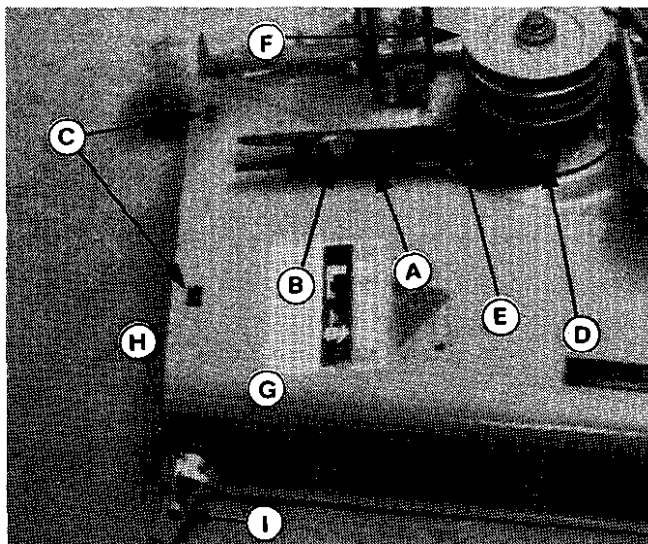
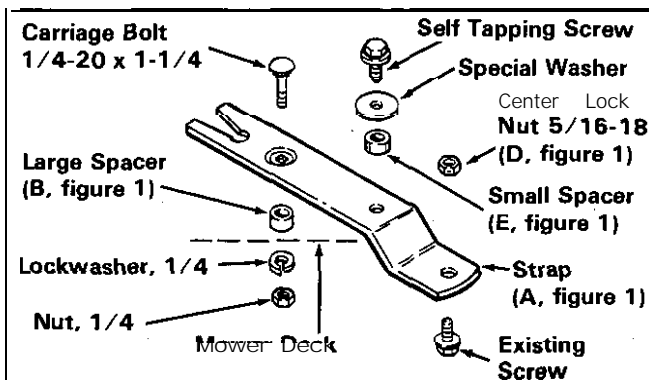
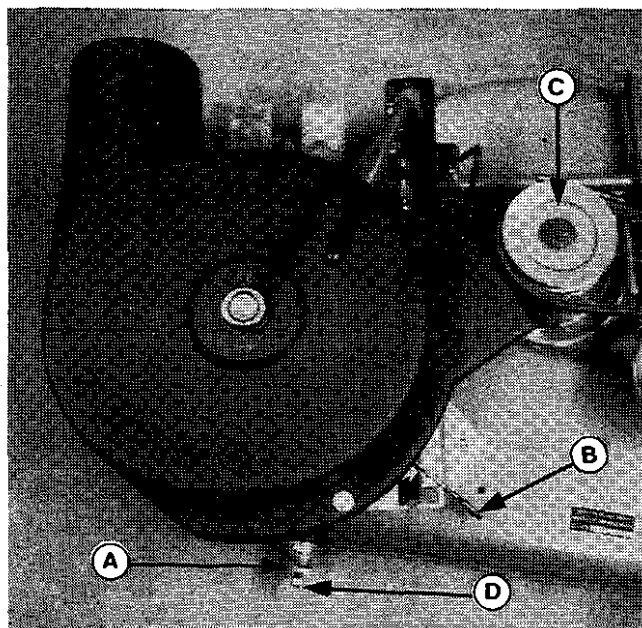

Figure 1.
Figure 2.
Figure 6.
2. Install strap (A, figure 1) as follows:
- a. Drill a  $\frac{9}{32}$ " hole for large spacer (B). Use the supplied template on the last page. Align template with deflector mounting holes (C).
- b. Install strap (A, figure 1) to deck with hardware shown in figure 2.
- c. Check the installation. The strap should be secured to deck with locknut (D, figure 1). The small spacer (E) should be above the strap. The large spacer (B) should be between strap and mower deck.
4. Remove the existing right-hand arbor pulley and install the new double-groove pulley (F, figure 1) with existing capscrew, lockwasher and washer. Torque to 55 to 70 ft. lbs. Do not reinstall deck-drive belt at this time.
6. Install wing nut (G, figure 1) assembly as follows. Insert  $5/16$ -18 x 2-1/2 capscrew and  $5/16$  flat washer from inside the deck. Place the cup (H) onto the capscrew and install  $5/16$  lockwasher and  $5/16$  nut. (Figure 12 shows correct position of cup.) Thread the wingnut (A, figure 6) onto capscrew and install the  $5/16$  locknut (D) flush with end of screen.
- a. Slide the blower into position as shown in figure 6. and tighten the wing nut (A).
- b. Push the belt retainer (B, figure 6) to provide slack and install belt onto lower groove in pulley (C). (Rotate pulley while placing belt on.)
9. Place the deck drive belt in the upper groove of the pulley (C, figure 6).